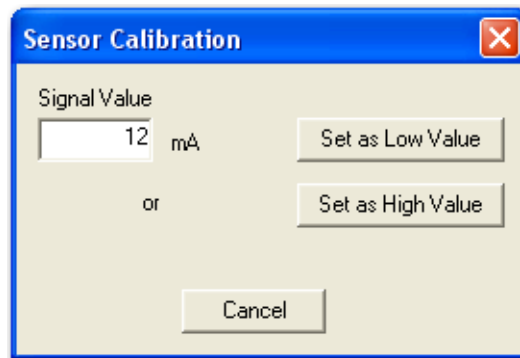

Figure 35 Sensor Calibration
2. Click **OK** and Figure 35 dialog appears.